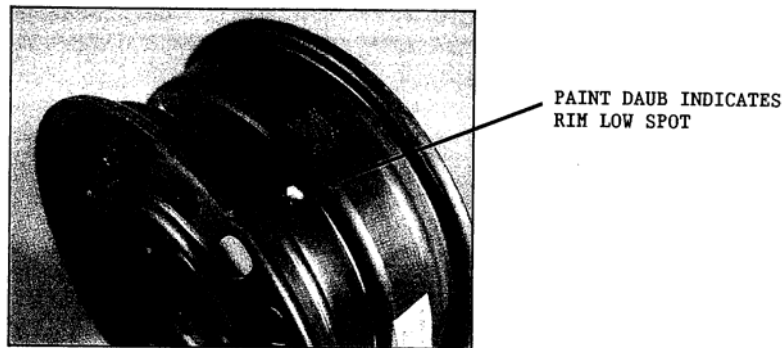

Figure 2
Ford and Chrysler passenger and LT steel rims have a paint dot or small painted daub in the drop well portion of the rim at the rim low spot (as in Figure 2 on attachment).
- Most steel replacement rims are marked with a small paint daub in the drop well area of the rim (see Figure 2 on attachment).